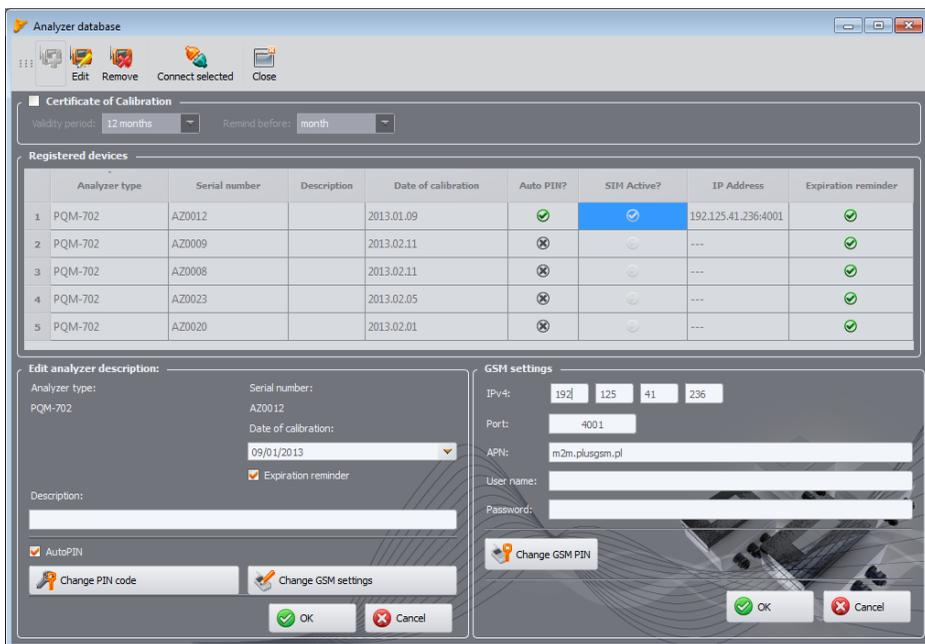

Fig. 39. Entering GSM settings in the analyzer database.
- Message "The analyzer is not connected" will be displayed with a panel for GSM settings in offline mode, in order to enter the IP number of the analyzer (Fig. 39).